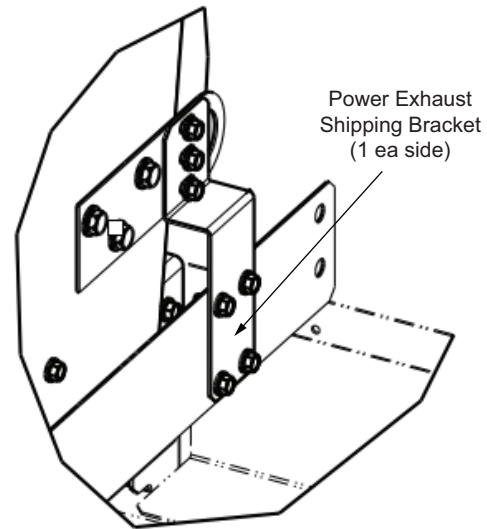

Fig. 40 — Power Exhaust Shipping Bracket
6. Remove the shipping bracket. See Fig. 40.